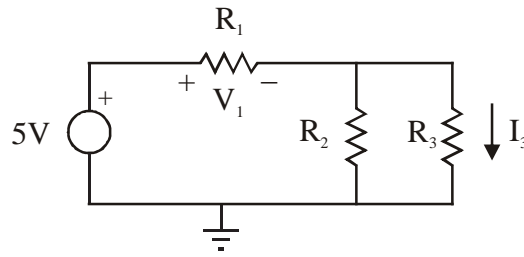

Figure 1.7 Resistor circuit schematic
- (3) Build the circuit shown in Figure 1.7 with the three given resistors on the breadboard. Note that R_1 is in series with the parallel combination of R_2 and R_3 .